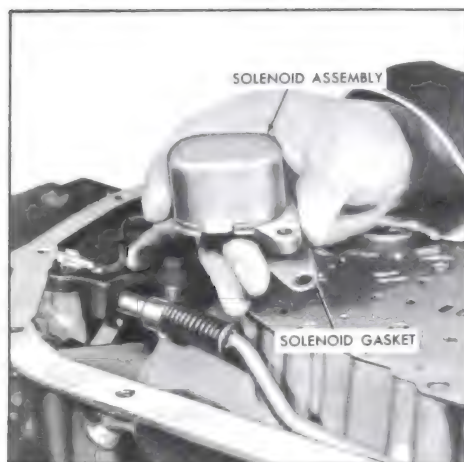

Figure 5-713
3. Install four (4) check balls into the transmission case pockets.
5. Install the solenoid gasket. See Figure 5-713.